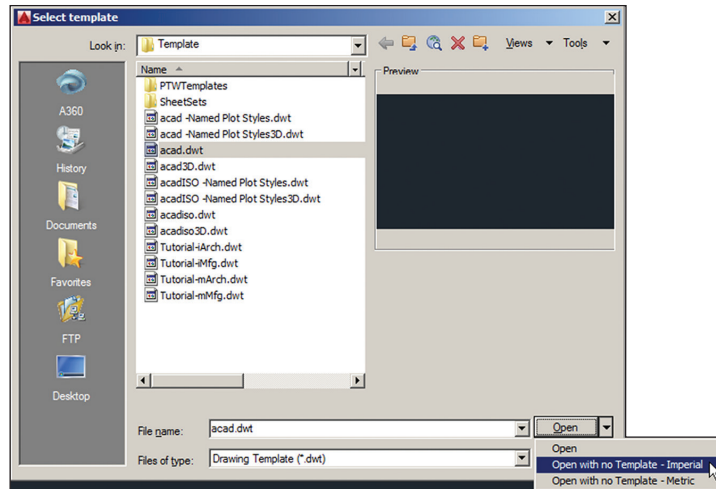

FIGURE 1.17 Opening a drawing with no template
1. Click the New button on the Quick Access toolbar. Click the arrow button next to the Open button in the Select Template dialog box and choose Open With No Template – Imperial (see Figure 1.17).